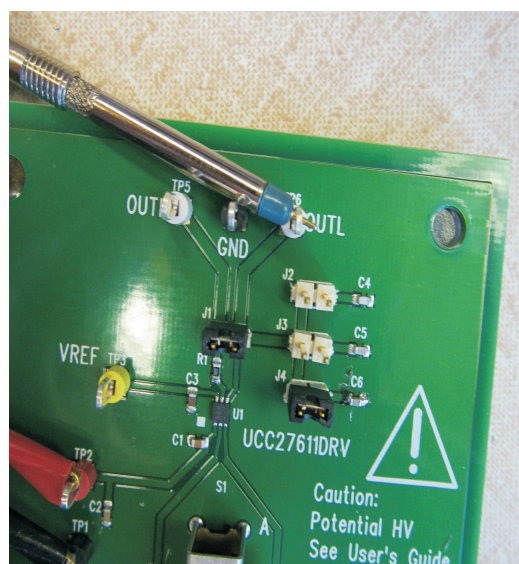

Figure 3. Recommended Probe Set Up for the measurements on TPS 6
5. Connect oscilloscope channel two to output drive signal between TP6 signal and TP10 ground using the method shown in Figure 3.